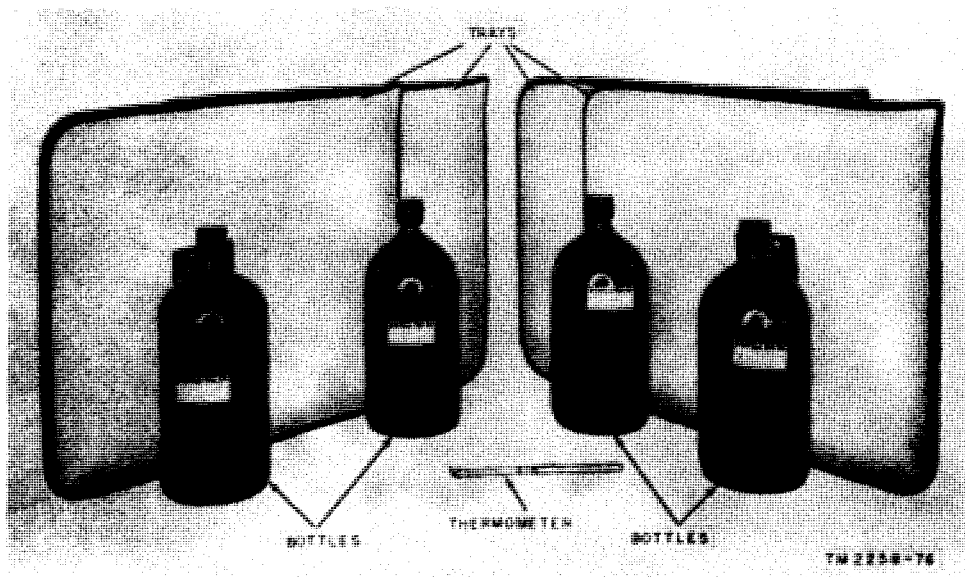

Figure 4. Photographic equipment PH-549/TXC-1.
d. Photographic Equipment (fig. 4). Photographic Equipment PH-549/TXC-1 is supplied with Facsimile Transceiver AN/TXC-1*. This equipment consists of one thermometer, four Bottles PH-22, and four trays.